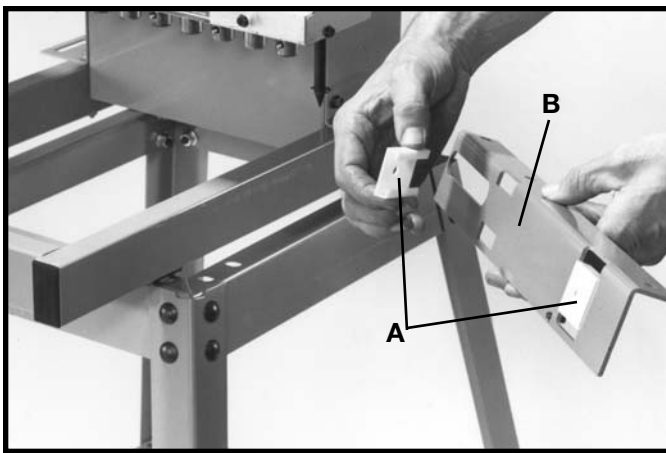

Fig. 8
1. Clip the two table slides (A) Fig. 8, to the table bracket (B) as shown.